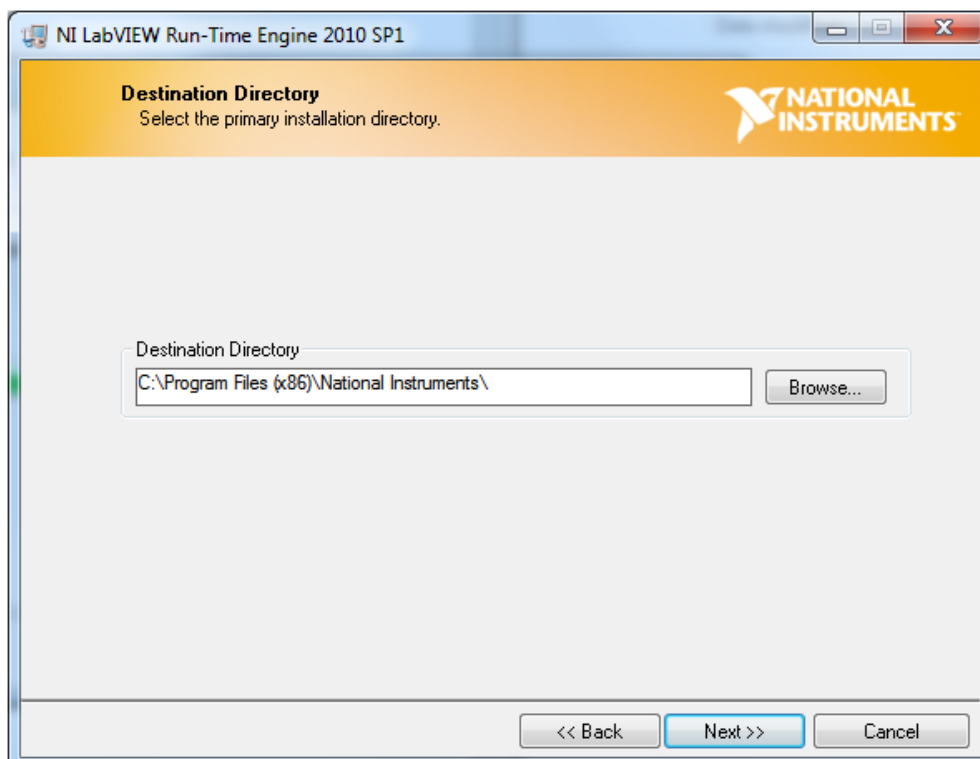

Figure 41. HMC-DAQ GUI Install (LabView Run-time Engine Installation)
8. Press the *Next* button, as in Figure 41.